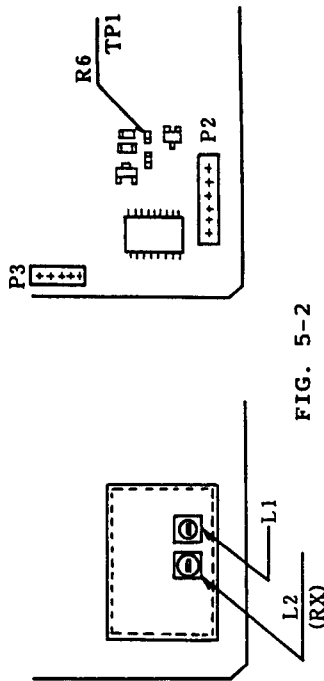

FIG. 5-2
- 2) Connect a digital voltmeter or high impedance tester (positive lead to TP1, negative to ground) and adjust L1 and L2 as shown in Table 1. (See Fig. 5-2)